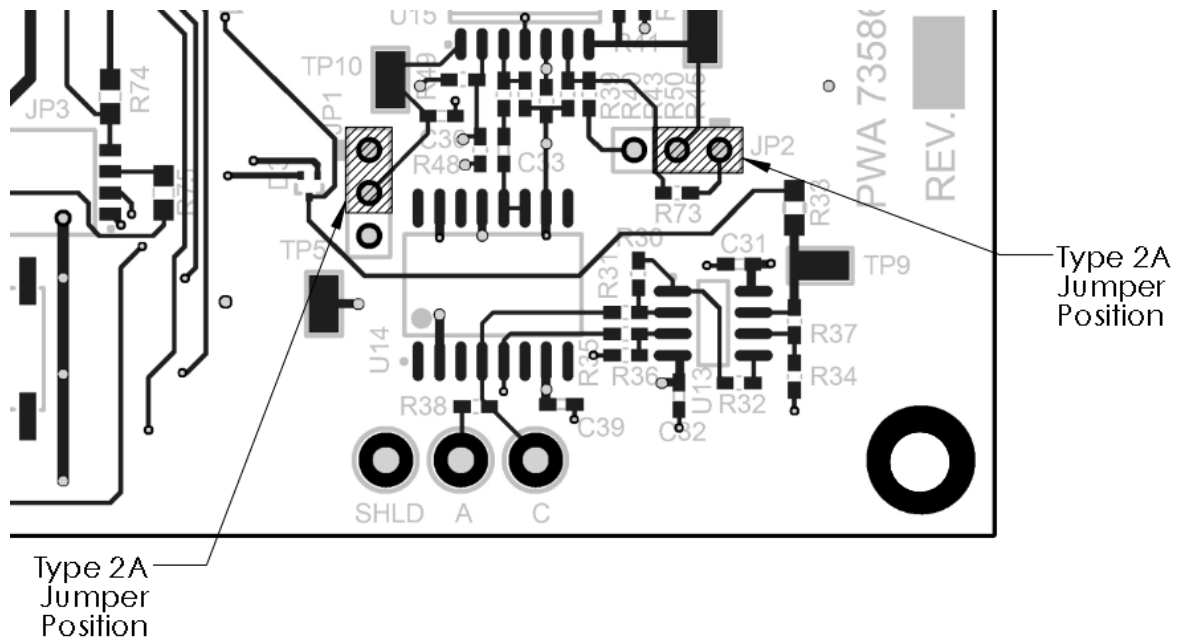

Figure 4A
7. Locate the two jumpers on the Controller board as shown in Figure 4A.